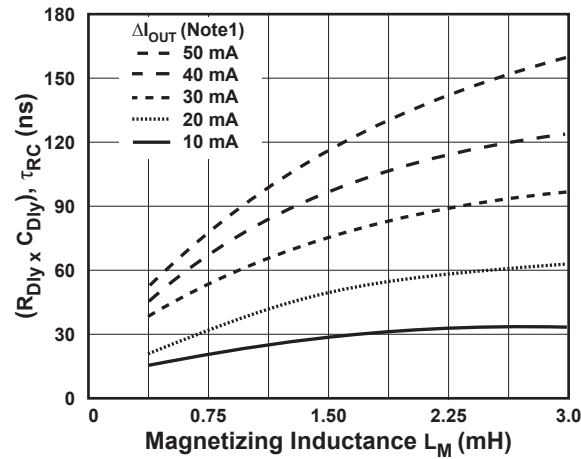

Figure 12.7 :  $T_{ON}$  Compensation Chart  $R_{DS(ON)} = 55\text{-}250\Omega$
- Find the curve that best matches this difference from Figure 12.7.